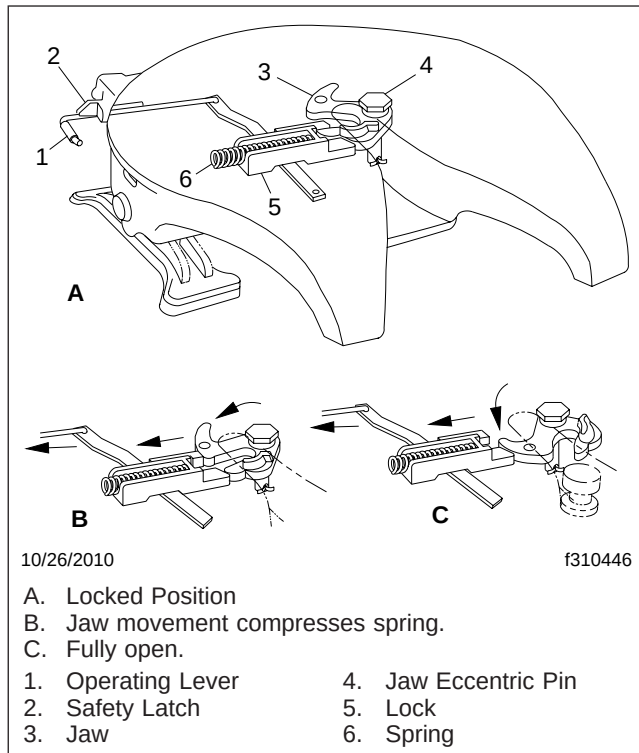

Fig. 10.10, ASF Castloc II and Simplex Series Kingpin Locking Mechanism Operation
Fifth Wheel Lock Mechanism for Trailer Kingpin (Fig. 10.10)
4. Position the tractor so that the center of the fifth wheel is in line with the trailer kingpin. The kingpin should be in a position to enter the throat of the locking mechanism. See Fig. 10.10. Adjust the trailer landing gear so that the lower front trailer edge contacts the top surface of the tilted fifth wheel plate, approximately 8 inches (20 cm) before the fifth wheel center.